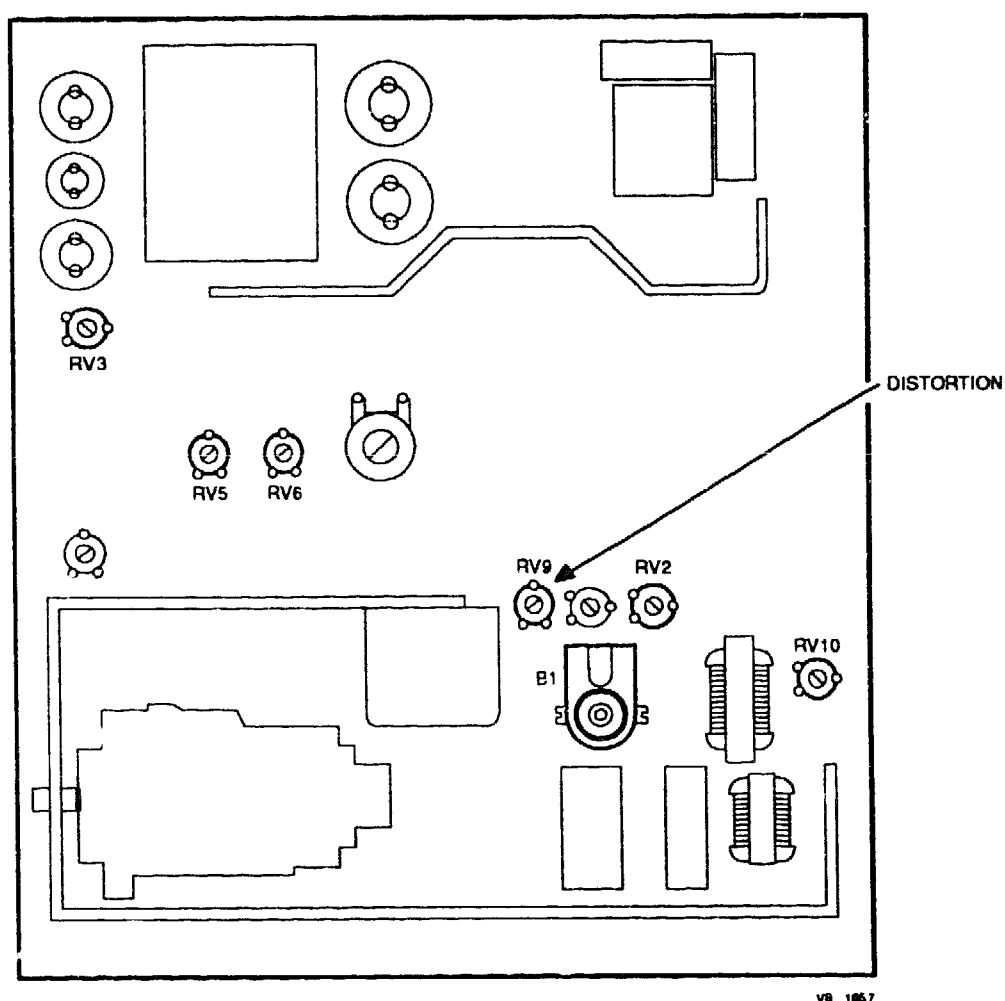

Figure 4-13 Processor Board Trimmer RV9
2. Adjust trimmer RV9 (Figure 4-13) to obtain a rectangular image.